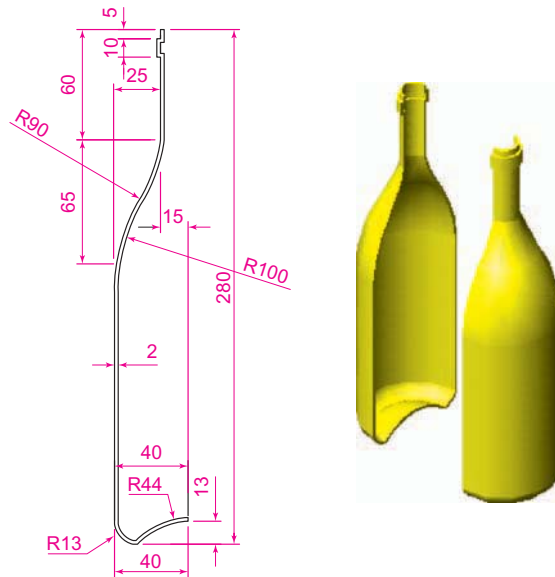

Fig. 14.25 Second example – Slice
Second example – Slice (Fig. 14.25)
1. Construct the closed pline (left-hand drawing Fig. 14.25) and, with the **Revolve** tool, form a solid of revolution from the pline.
The right-hand illustration of Fig. 14.25 shows the result.